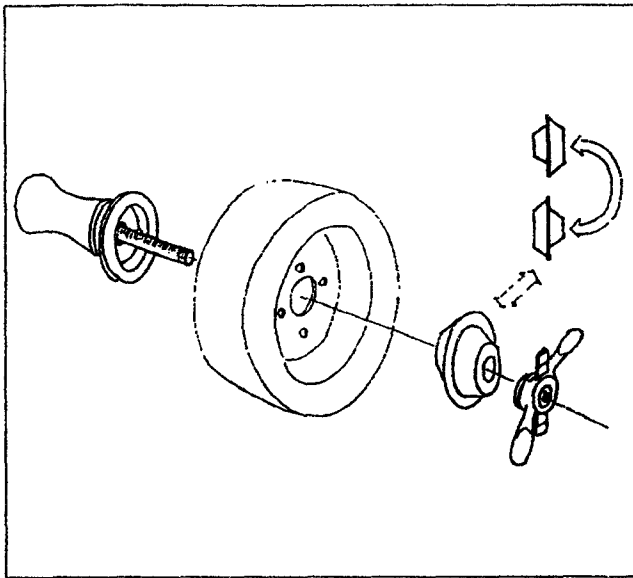

Fig.32
B. Center the wheel with the dual cone from the outside (Fig.32).